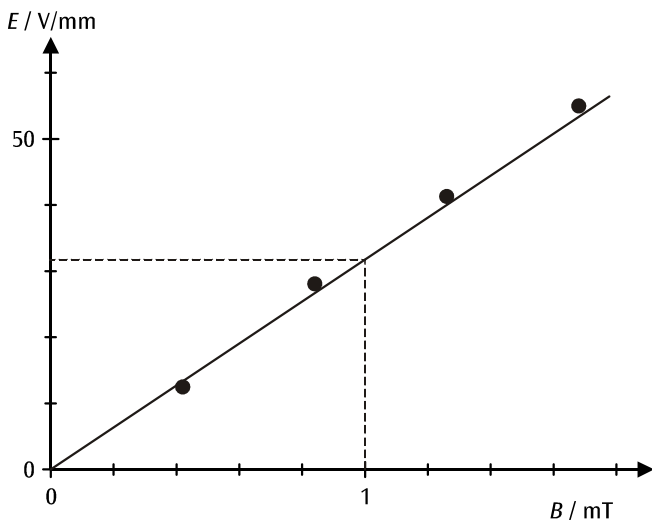

Fig. 6: Graph of results from Table 4
e) To confirm Equation (7) the values of B and E , are calculated from the results in Table 2, where the deflection by both fields cancels out to zero (see Table 4). The results are then plotted on a graph of E against B (see Fig. 6).